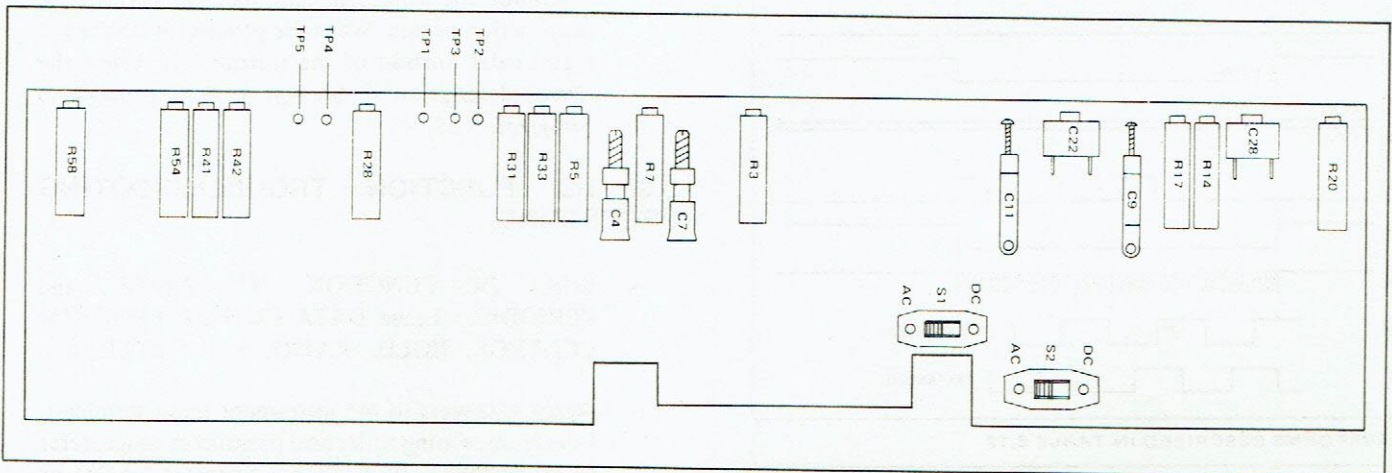

Figure 5.5 - Test Points - RMS AC Converter
- Set DVM power switch to off. Extract converter and remove environmental shield. Set S1 and S2 to DC (away from center of board), replace converter and set power switch to on. Select AC and 1 volt range on DVM front panel. Allow 10 minutes for temperature to stabilize. Refer to figure 5.5.